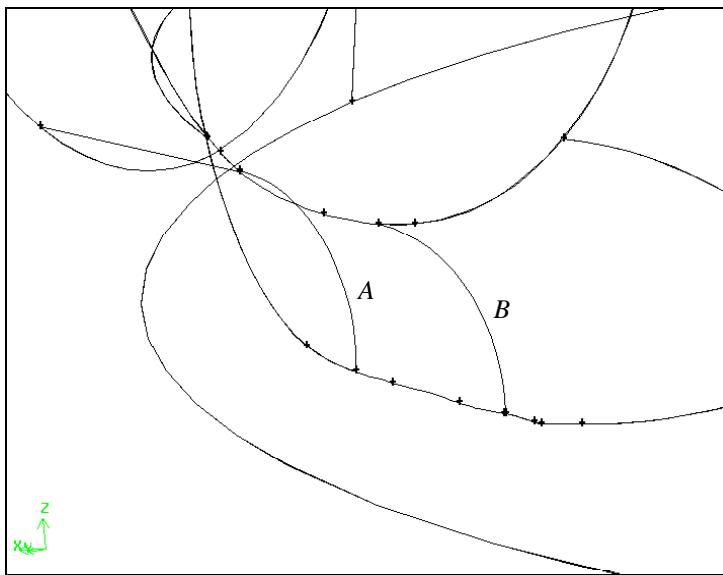

Figure 13-5: Local geometry after face deletion
GAMBIT removes the faces from the model, leaving the local geometry shown in Figure 13-5.
1. Remove discontinuities from one of the edges shown in Figure 13-5.
- a) In the graphics window, select (pick) edge *B* shown in Figure 13-5, above.
- a) In the graphics window, select (pick) edge A shown in Figure 13-5, above.
- b) Select (pick) edge B shown in Figure 13-5.